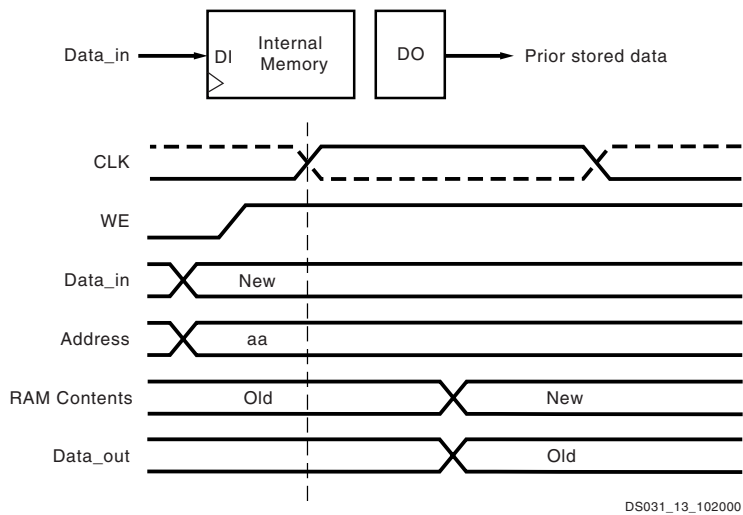

Figure 33: READ_FIRST Mode
The READ_FIRST option is a read-before-write mode. The same clock edge that writes data input (DI) into the memory also transfers the prior content of the memory cell addressed into the data output registers DO, as shown in Figure 33, page 31.